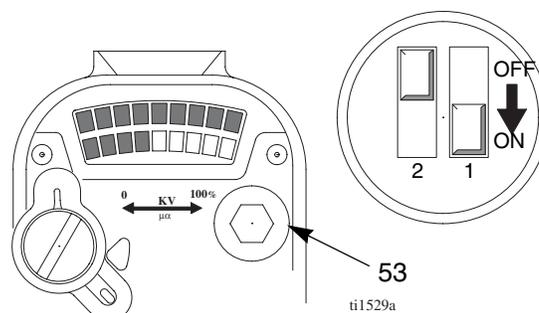

Fig. 4. Low Voltage Adjustment Switches
2. Remove the LOW VOLTAGE adjustment plug (53). Set the desired voltage, using a small screwdriver to slide switches 1 and 2 ON or OFF, according to Table 1 . Also see FIG. 4.